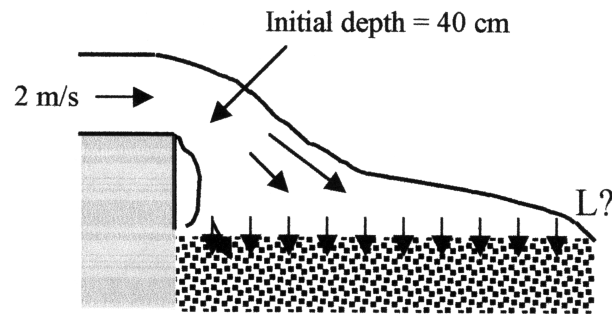

Fig. P3.19
**3.19** Water from a storm drain flows over an outfall onto a porous bed which absorbs the water at a uniform vertical velocity of 8 mm/s, as shown in Fig. P3.19. The system is 5 m deep into the paper. Find the length  $L$  of bed which will completely absorb the storm water.